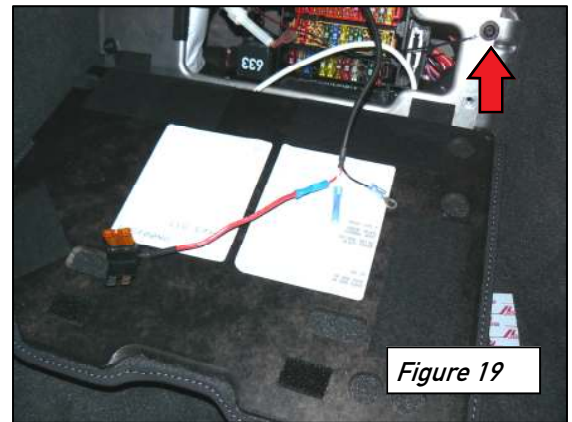

Figure 19
- 1) Attach the included ring terminal to the black wire. Ground the ring terminal by placing it under one of the black screws that secures the metal frame surrounding the fuse panel, at arrow in **Figure 19**.